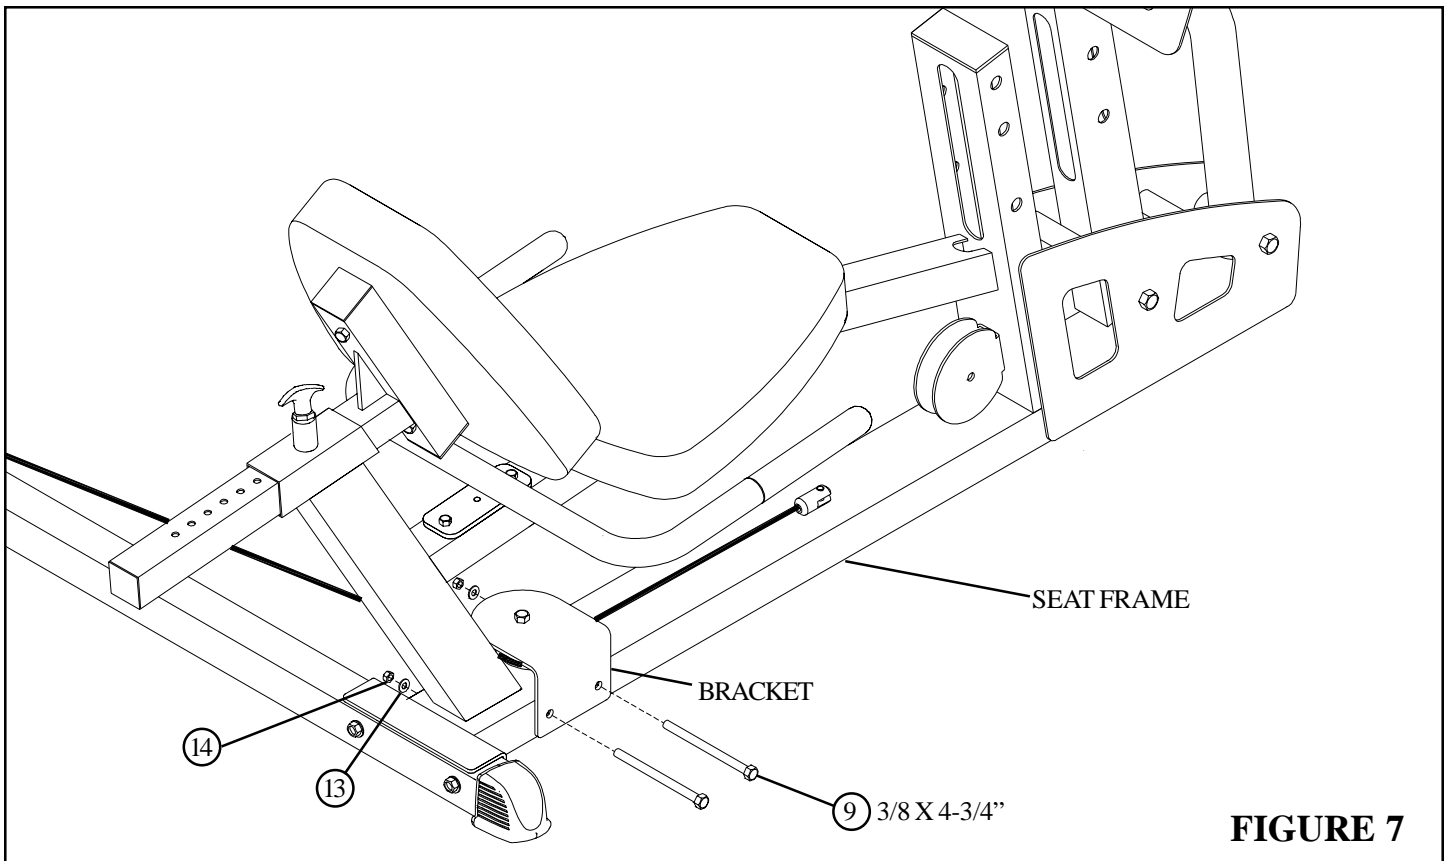

FIGURE 7
- **SECURELY** attach the BRACKET (from LP5 LEG PRESS) to the SEAT FRAME using two 3/8" X 4-3/4" BOLTS (9), two 3/8" WASHERS (13), and two 3/8" LOCK NUTS (14). See FIGURE 7.